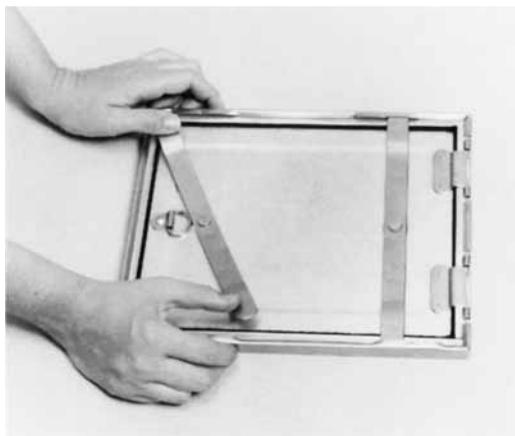

Figure 38
2. Open the cassette by turning and releasing the two metal spring bars (Figure 38).